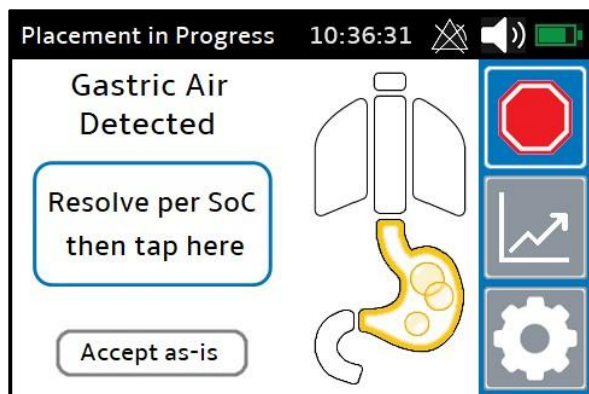

Figure 14: Stomach Check - Gastric Air Detected
- If very high impedances are observed in the distal section of the tube, "Gastric Air" is indicated (Figure 14). The user should use standard of care methods to remove air from the stomach before retrying the Stomach Check. Removing the air helps the feeding tube make better contact with stomach tissue, which allows the monitor to make a more definitive stomach placement determination. Alternatively, if aspiration is undesirable and the clinician is confident that the placement is correct, the "Accept As-Is" button allows the user to continue to the final step (standard of care verification) without further stomach checks.